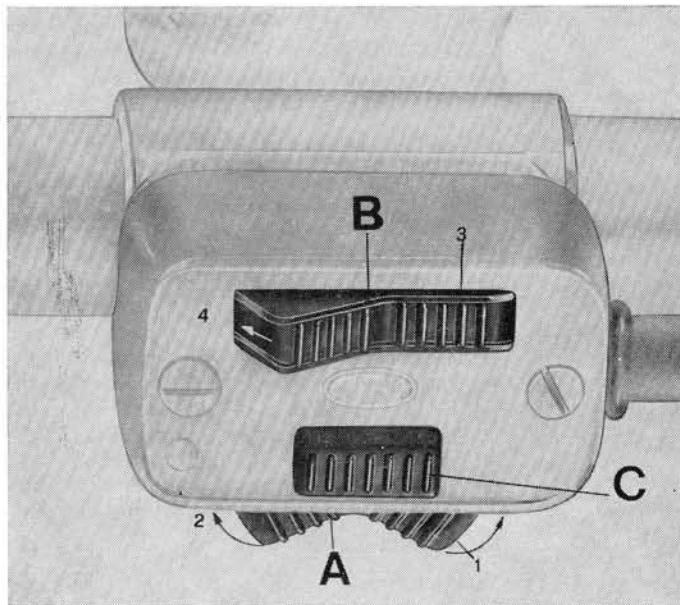

Fig. 7
- « 2 » Running position or machine ready to set out. All controls on. For daylight driving no other position necessary. For night driving levers A and B on the left handlebar must be switched on (Fig. 7).
(Fig. 7)